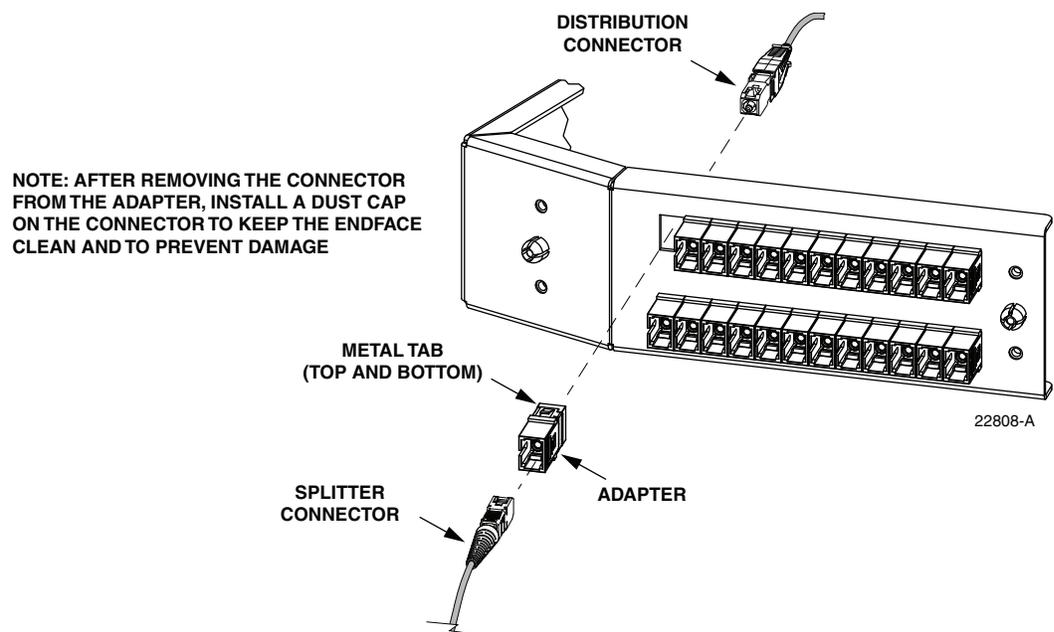

Figure 22. Adapter Removal and Replacement
1. Disconnect the splitter output connector from the front side of the broken adapter as shown in Figure 22 and install a dust cap on the connector.